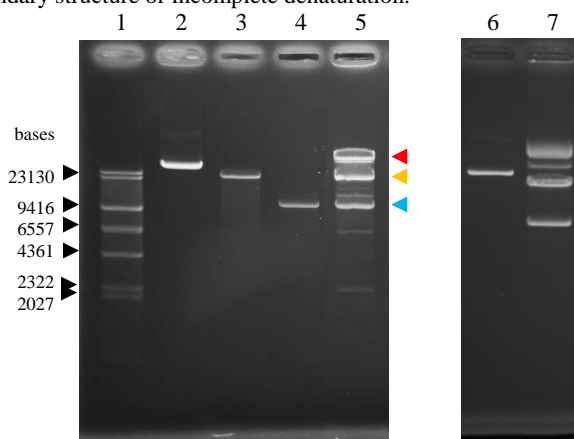

Figure 3. Analytical agarose gel electrophoresis of the nicked plasmid
6. Examine the gel on a UV illuminator (figure 3).
^{*10} In the electrophoresis with Crystal violet, the migration of ssDNA is influenced by DNA amount in each band. Therefore molecular weight marker is not necessarily migrated to the expected position. However, ssDNA band in the gel including crystal violet can be directly seen in real time. So the band to excise can be identified by compared with the result of analytical electrophoresis (STEP 16) (Figure 3, 4).